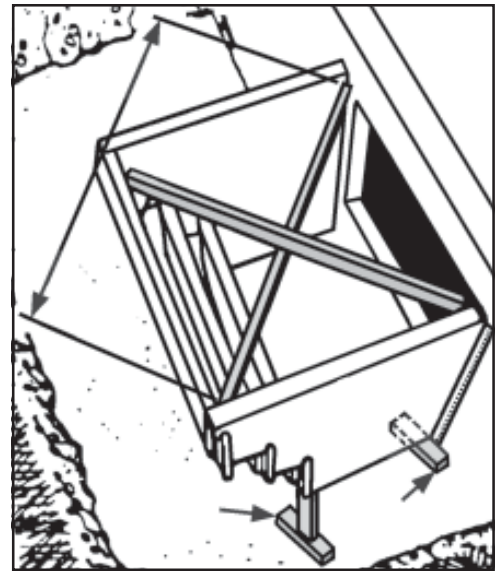

Figure 5
Embedment into the wall surface must be adequate to fully secure the fastener, but shall not be less than 1.5" penetration. Individual fasteners should have an ultimate load tensile capacity (pullout) of at least 1,800 pounds, or a working load tensile capacity of 450 pounds. Ultimate load shear capacity (bending) should be at least 1,700 pounds, or a working load shear capacity of 425 pounds (based on 3000 psi wall material). Wall materials less than 3000 psi may require deeper embedment to achieve required pullout and bending values. Seal/waterproof holes with an exterior grade structural adhesive when anchoring into hollow core masonry units. Attach a 12" horizontal brace under each side panel (see Figure 5). (**Note:** Brace not supplied with window well, use 2x4 or 2x6 lumber.)
In addition to the horizontal side bracing mentioned in STEP 3, vertical bracing must be provided to prevent the well from pulling away from the foundation during backfilling. Use (2) wood T-braces measured to fit vertically from firm soil at the bottom of the excavated opening to where the bottom step attaches to the side panels (see figure 5).
In order for the optional cover to fit, the ScapeWEL window well must be installed within a one inch (1") overall tolerance. Proper cross bracing prior to backfilling will ensure that the well will be square. Using a 2 x 4 as a guide, add both diagonal measurements and divide by two to obtain the desired diagonal brace length. After cutting the first diagonal brace and placing it above the second step, recheck the second diagonal for length before cutting. The two 2 x 4 cross braces must be the same length. Place the second diagonal brace on top of the first (see Figure 5). (**NOTE:** Braces not supplied with window well, use 2 x 4 or 2 x 6 lumber.)